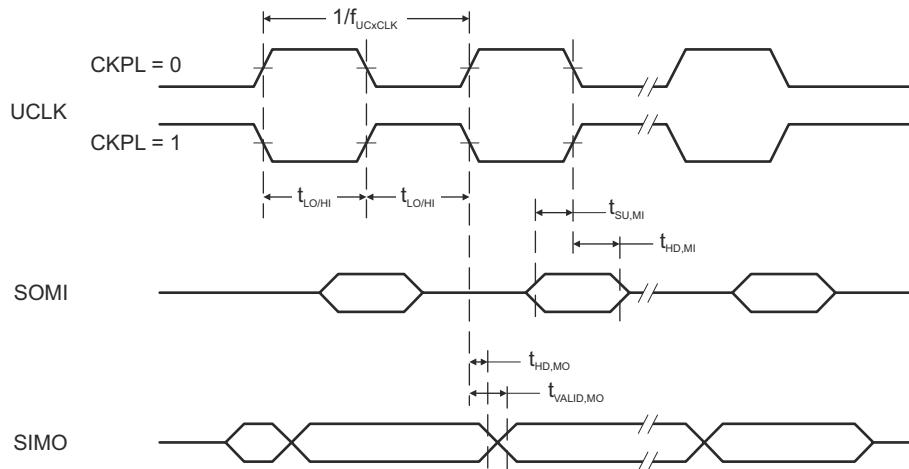
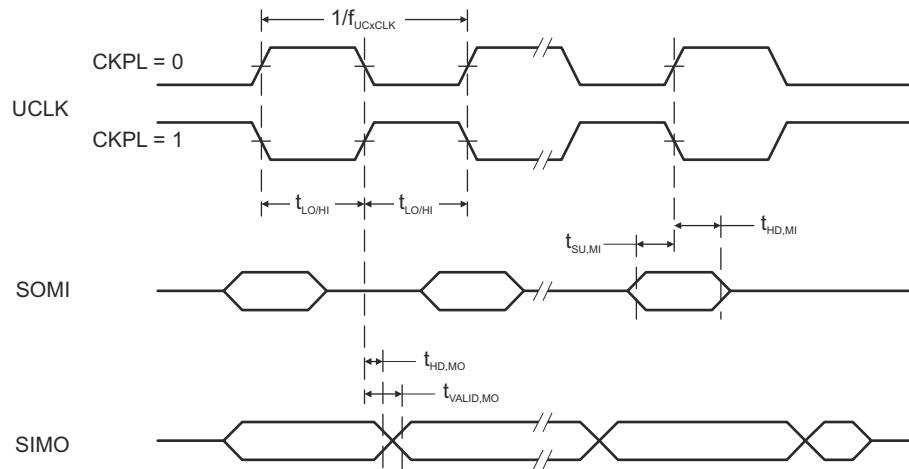

Figure 8-11. SPI Master Mode, $\text{CKPH} = 0$
Figure 8-12. SPI Master Mode, $\text{CKPH} = 1$
(see Figure 8-11 and Figure 8-12)
- (2) Specifies the time to drive the next valid data to the SIMO output after the output changing UCLK clock edge. See the timing diagrams in Figure 8-11 and Figure 8-12.
- (3) Specifies how long data on the SIMO output is valid after the output changing UCLK clock edge. Negative values indicate that the data on the SIMO output can become invalid before the output changing clock edge observed on UCLK. See the timing diagrams in Figure 8-11 and Figure 8-12.